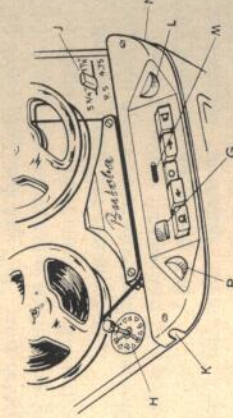

Fig. 7
Push lever of switch "J" to the left, see fig. 7.
- Push lever of switch "J" to the right, see fig. 7.
2. Shift start-stop lever to the left, see fig. 7.